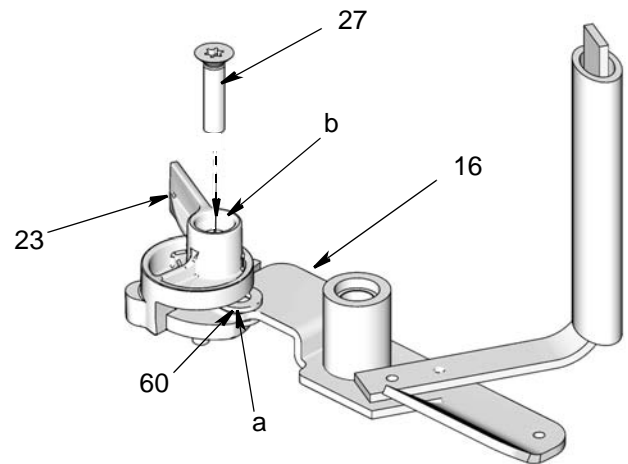

FIG. 11
- d. Align hole (b) in top of low level paddle (23) with hole in center of washers (60) and hole (a) in stirring paddle (16) (FIG. 11).
- e. Insert screw (27), making sure it passes through the low level paddle (23), washers (60) and hole (a) in the base of stirring paddle (16)
(FIG. 11).